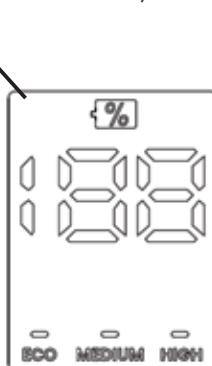

Fig.4-1b
During operation, please pay attention to battery level indication lights (3) (see Fig.4-1b). When the battery is low, the display area will show "LO" and flash to remind you to charge. The appliance will stop working automatically when all the indicators are extinguished. (For details about the machine's speed settings, please refer to the notes below)